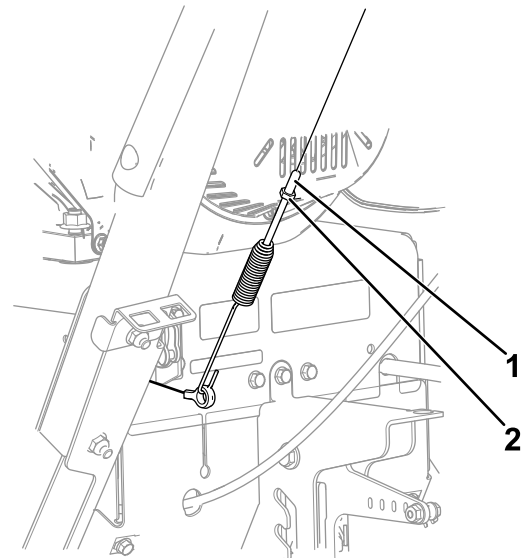

Figure 29
1. Loosen the jam nut (Figure 29).